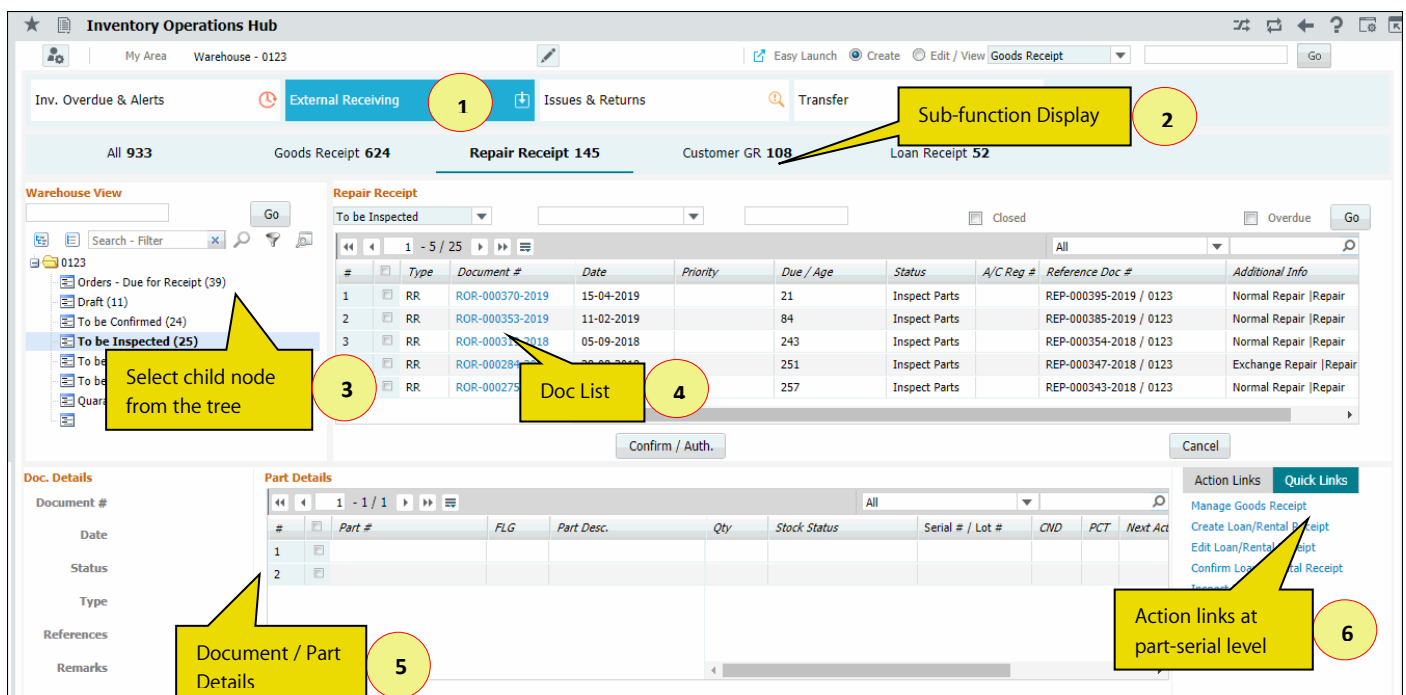

Figure 2.7 Managing external receipts
1. Select the **External Receiving** Function in the **Inventory Operations Hub**. See Figure 2.7.